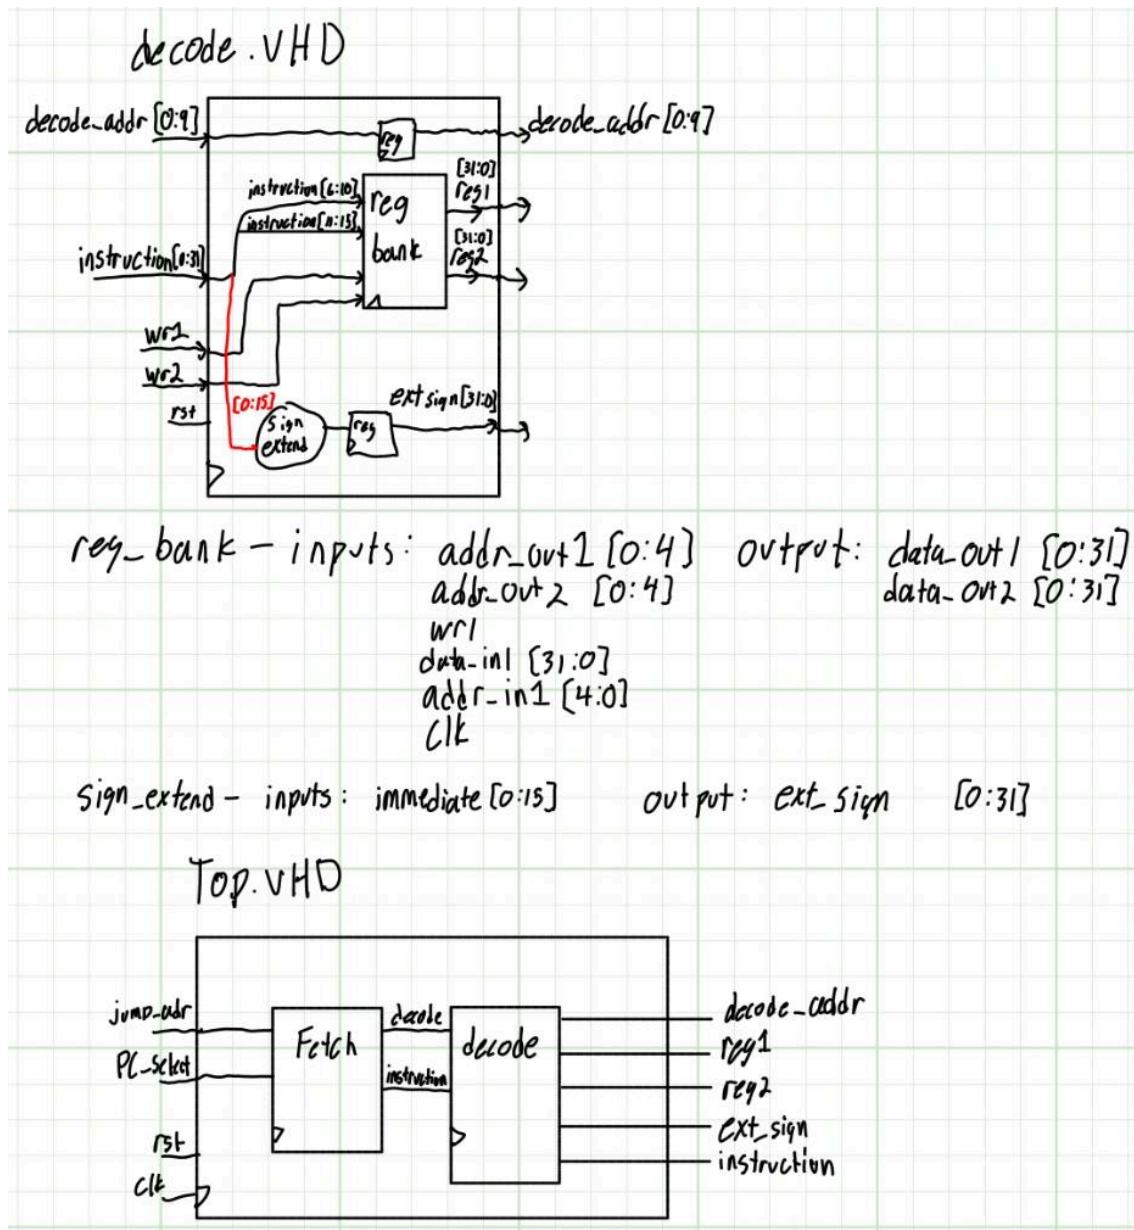

Figure 1: First Initial Block diagram for all the blocks we needed to implement and link together and top VHDL file.
- We started off by making each block that would match the blocks we had made in our block diagram. (See Figure 1)